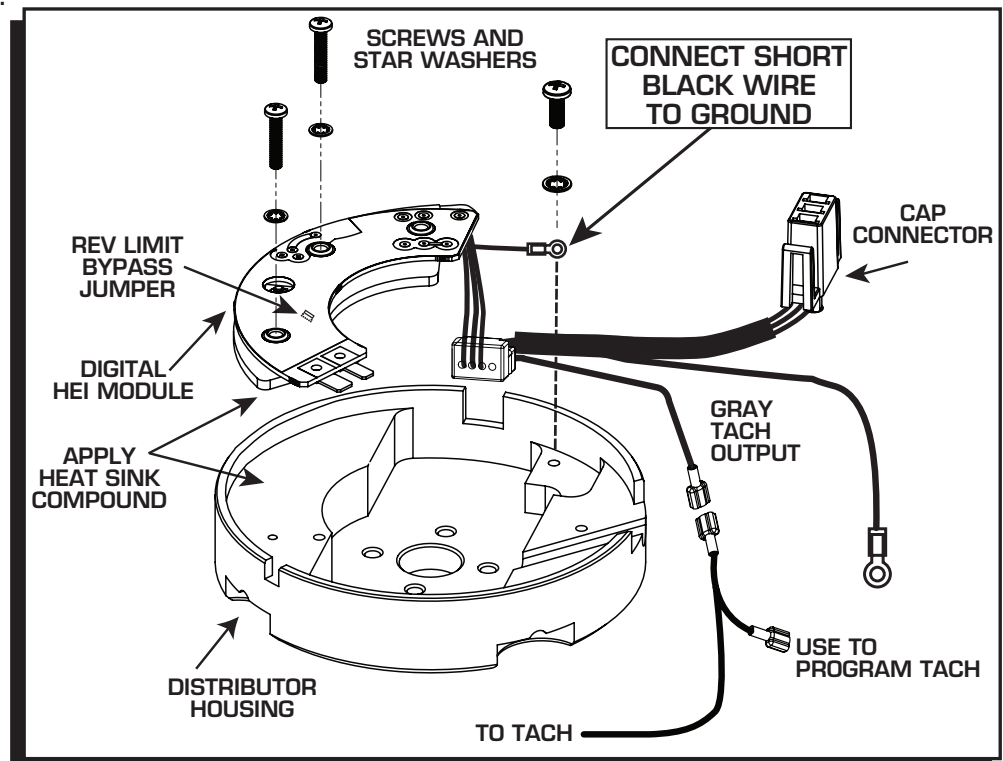

Figure 1 Installing the Module.
4. Route the wiring harness out of the housing and position the short Black wire to ground with one of the mounting screws (Figure 1).
5. Position the module in the distributor then locate the two screws and star washers to secure the module (Figure 1).